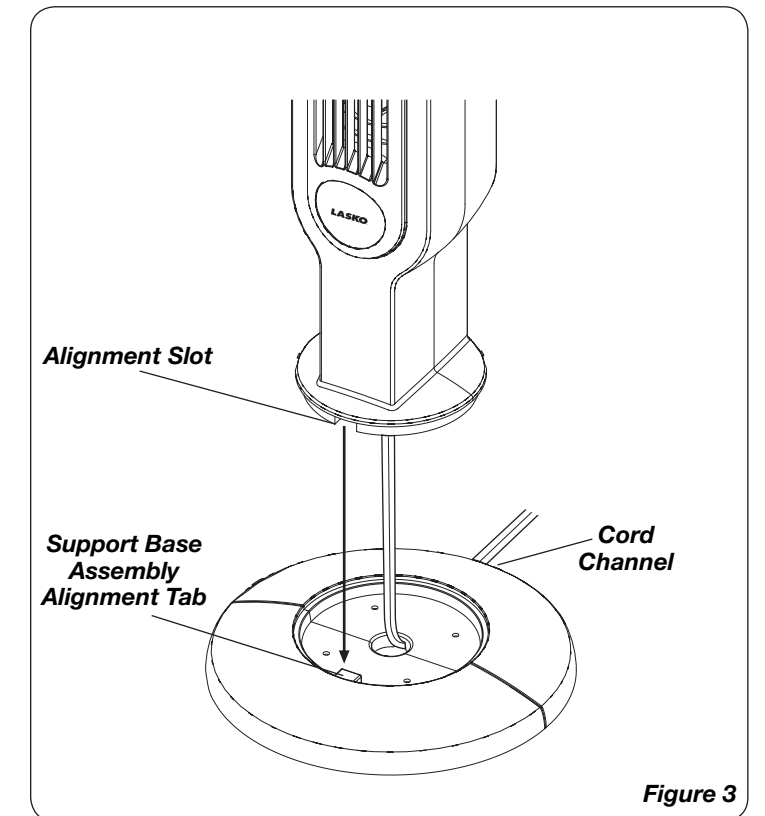

Figure 3
4. Align the **Support Base Assembly Alignment Tabs** with the alignment slots on the bottom of the fan, noting that the cord channel on the bottom of the support base should be towards the back of the Fan. (**Figure 3**)